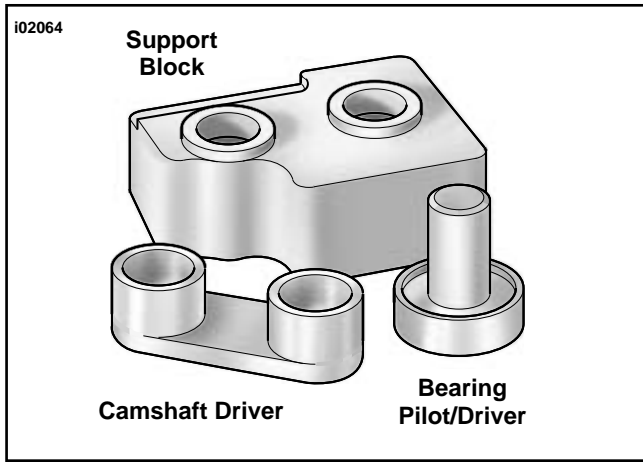

Figure 4. Camshaft/Camshaft Bearing Remover/Installer (P/N HD-43644)
a. See Figure 4. Obtain the CAMSHAFT/CAMSHAFT BEARING REMOVER/INSTALLER (HD-43644)